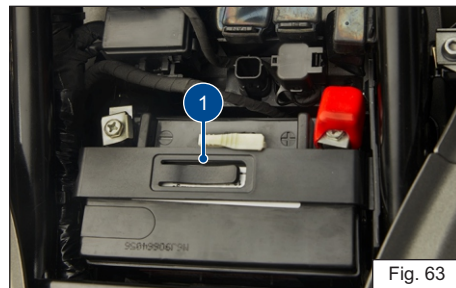

Fig. 63
- ♦ Remove the mounting bolt and take the battery holder (A) (ref. Fig. 63)